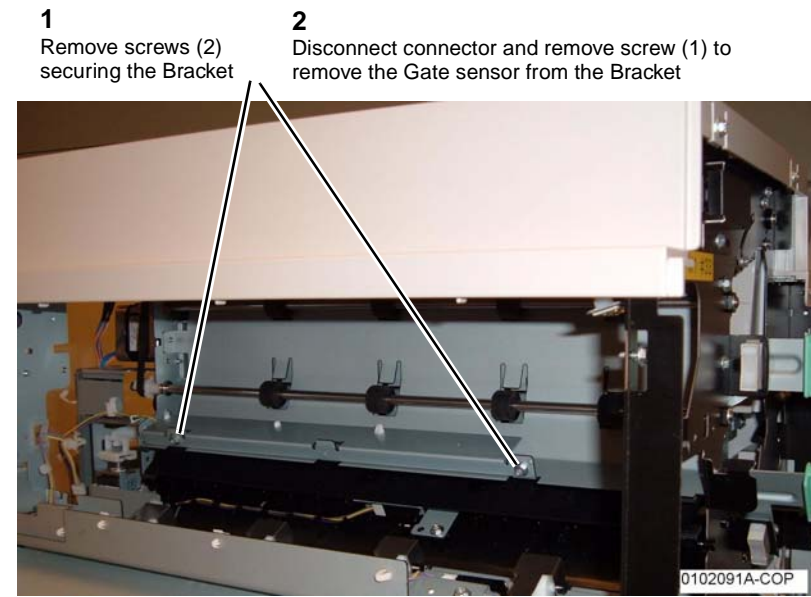

Figure 1 Removing the Gate Sensor
4. Remove the Gate Sensor (Figure 1).